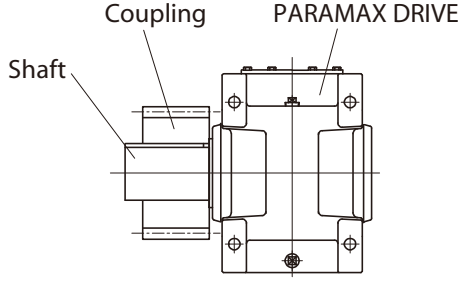

Fig.13
(2) Use of chain, sprocket and gear
- Locate the sprocket and gear as close to PARAMAX DRIVE as possible so that the point of application of the load will be closer to the PARAMAX DRIVE'S vertical centerline (Fig.13).
(3) Use of V belt